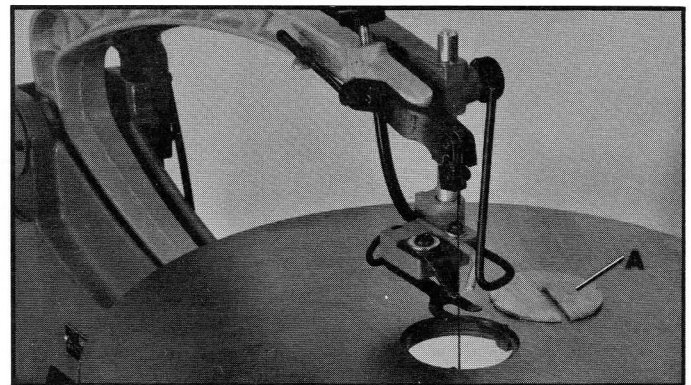

Fig. 9A
2. Assemble table insert (A) Figs. 9A and 9B, onto the table top from behind the saw blade (B) so slot (C) is toward the front of the machine. NOTE: Make certain the table insert fits flush with the table surface.